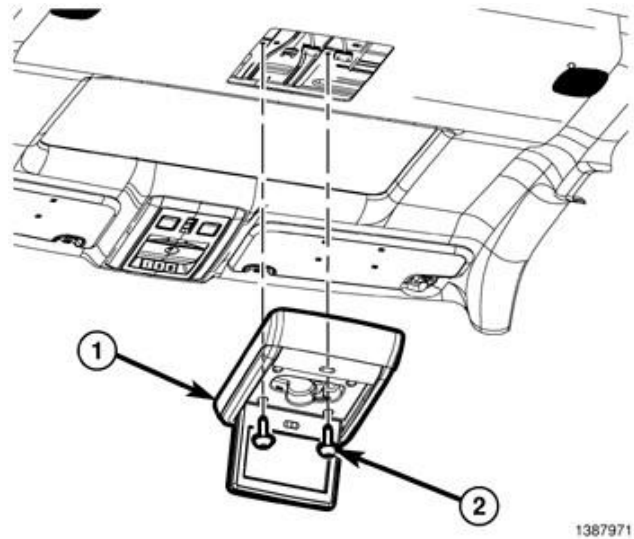
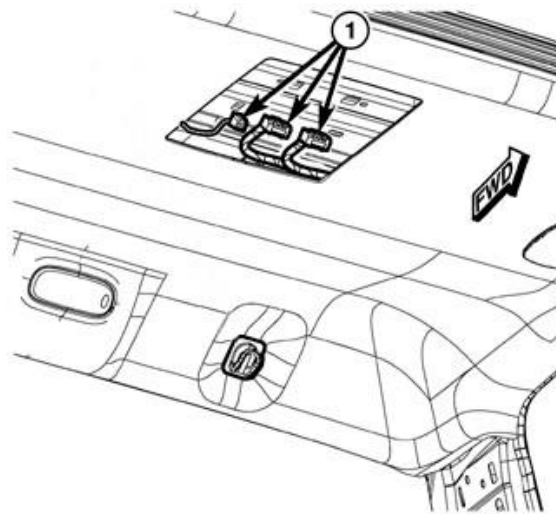

Figure 25 – Rear Seat DVD Monitor
Figure 26 – DVD Monitor Electrical Connectors
16. If equipped with DVD monitor, remove the screws (2) and separate the monitor (1) from the roof (Figure 25).
17. If equipped with DVD monitor, disconnect the electrical connectors (1) (Figure 26).
44. If equipped with DVD monitor, connect the DVD monitor electrical connectors (1) (Figure 26). Position the DVD monitor to the roof then install and tighten the screws (2) (Figure 25).